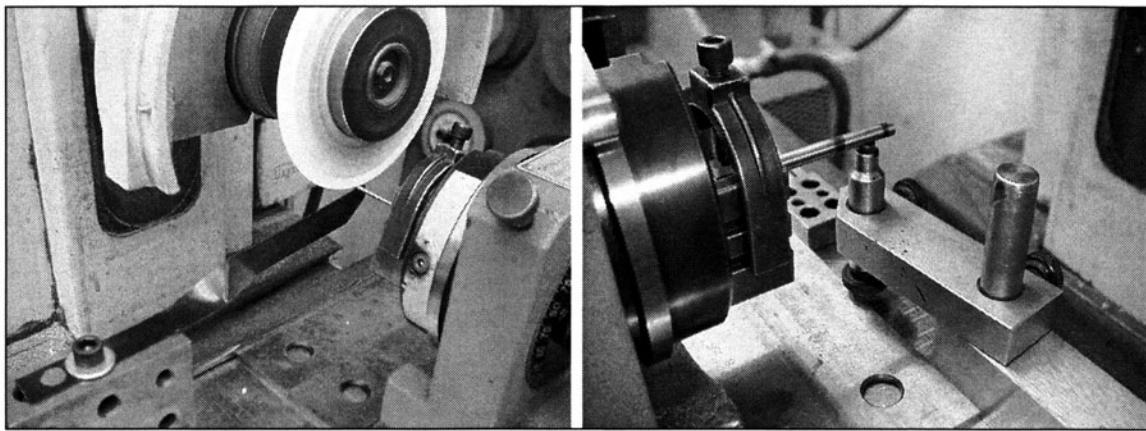

FIGURE 14-10 The OD of slender pins need to be ground with the aid of a support. Two different types of supports are shown here.
17. Use a thin, fine wheel for grinding weak, slender diameters. (See Fig. 14-10)